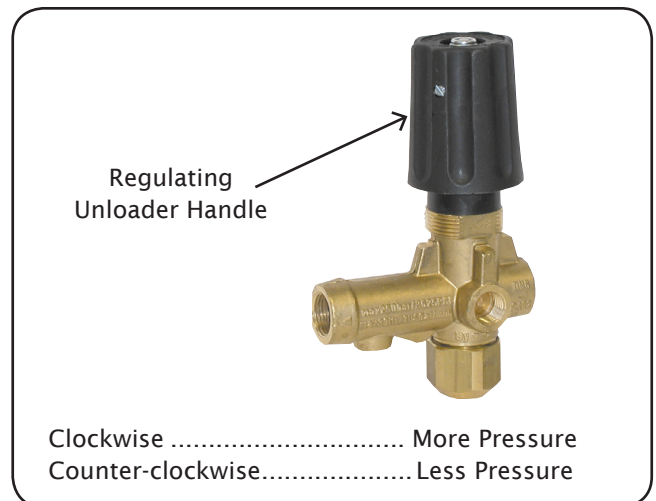

figure 3
2. Regulating unloader valve is set and locked for Max. PSI listed under unit specifications. Pressure can be adjusted by turning the handle on regulating unloader valve. (Fig. 3)